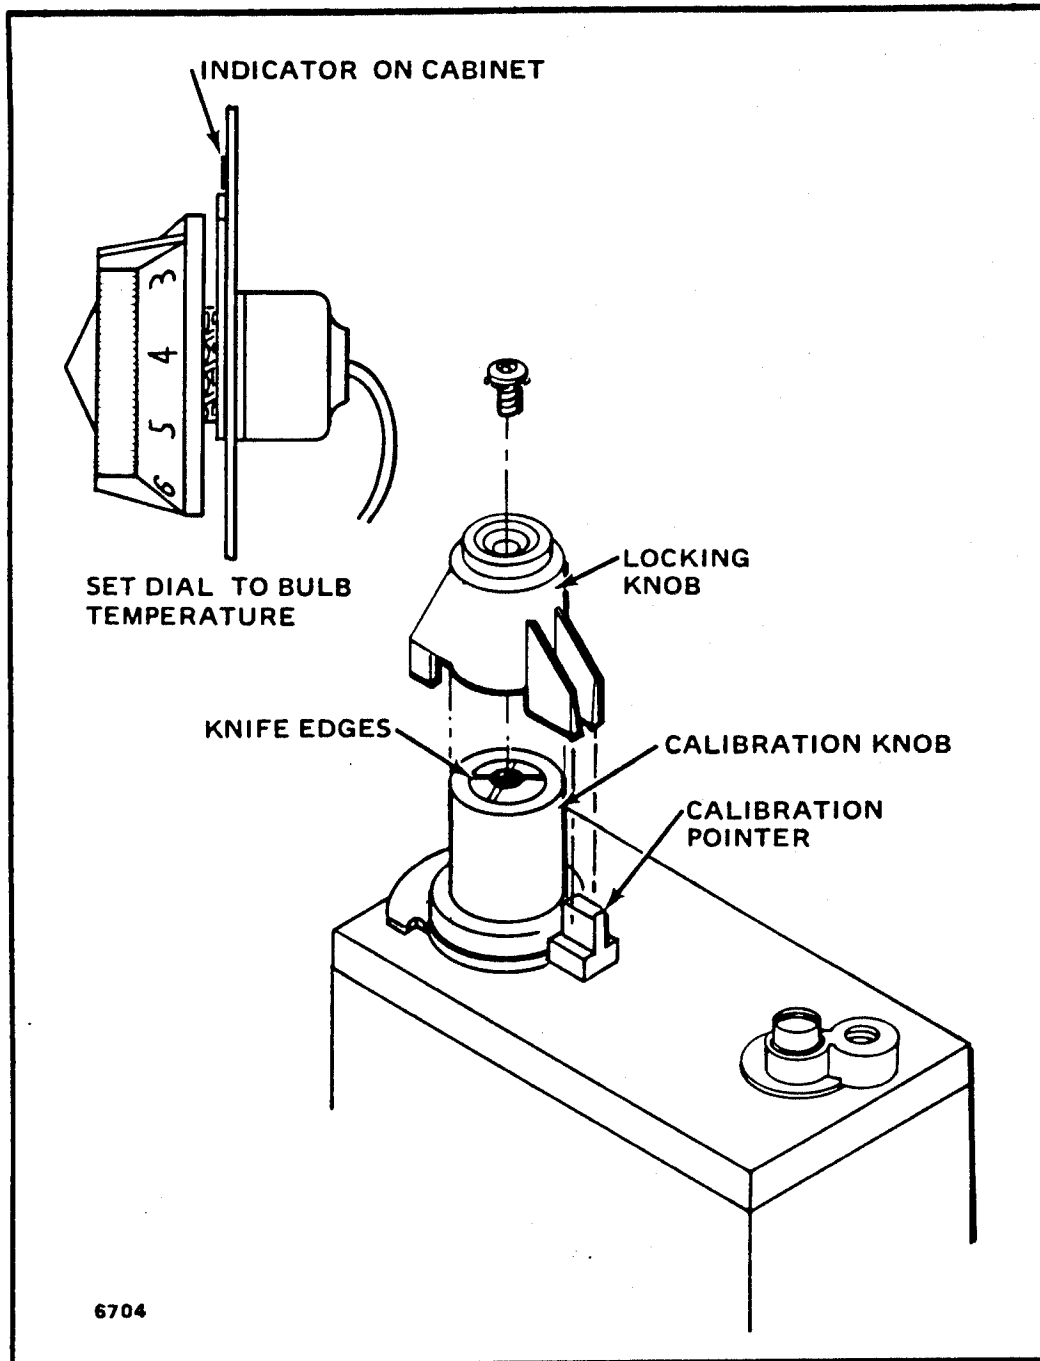

Fig. 36—Calibrating temperature dial of models with remote dial.
2. Start the burner and remove the plastic locking knob and screw from the calibration knob on the control, or remove the bellows locking bracket on the control body, Fig. 36. Turn the calibration screw clockwise  until the burner just snaps off.